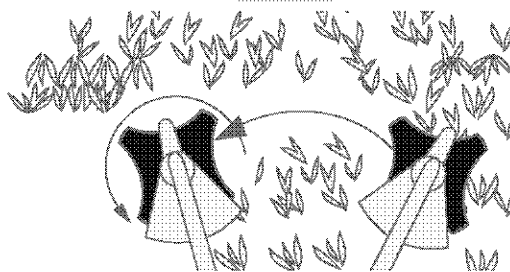

Fig. 31
- Swing the unit into material to be cut from your right to your left (Fig. 31)